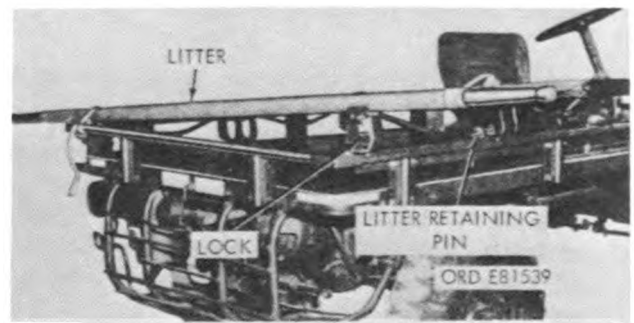

Figure 4-2. Securing litter with retaining pin.
(2) Position desired number of litters on vehicle and secure with locks and retaining pins shown in figure 4-2.